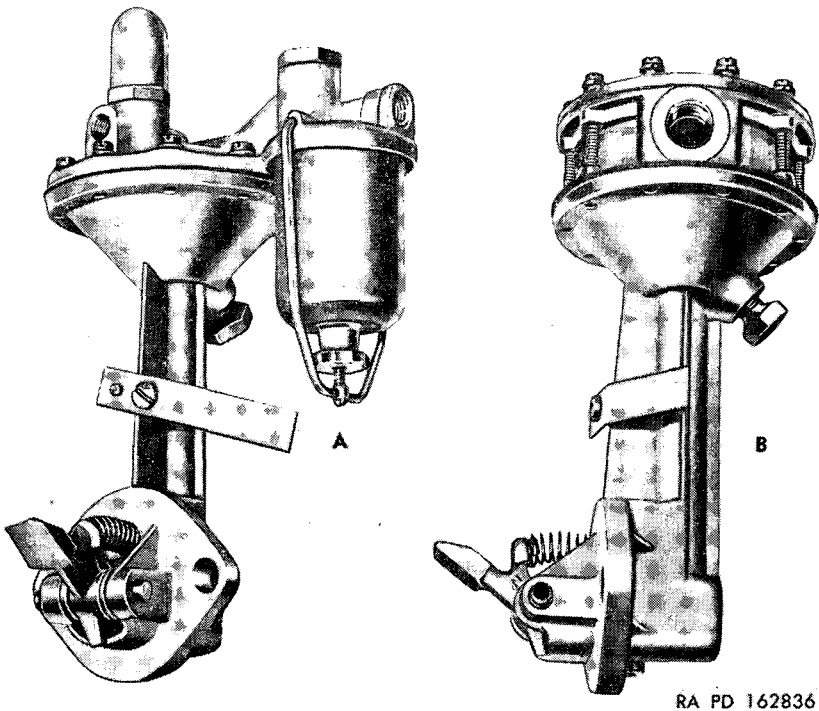

Figure 10. Special fuel pump, series IHC.
*a. Identification.* Series IHC special fuel pumps (fig. 10) are provided with high bodies to avoid engine interference with the pump top cover. Example A in figure 10 uses a cover similar to the D series pumps and example B uses the 6-valve cover for extra volume and pressure characteristics.
- (1) Remove diaphragm and pull rod assembly by pressing downward on diaphragm and then turning 90 degrees to disengage pull rod from link. Lift out diaphragm spring. Remove oil seal and oil seal retainer.
- (2) Before disassembling diaphragm, note carefully the position of tab on diaphragm with relation to flats on pull rod so new diaphragm can be assembled in the same manner.
- (3) Place pull rod in vise and remove pull rod nut, lock washer, alinement washer, upper protector washer, diaphragm, lower protector washer, and pull rod gasket in the order named.
- (4) Remove retainer clips from rocker arm pin and drive out pin with drift punch and hammer. This will disassemble rocker arm spring, rocker arm, link, and link spacer washers. Remove priming handle pivot screw to disassemble priming lever and link actuator.
*d. Disassemble Cover (A of fig. 10).*
- (1) Loosen bail screw nut and remove bowl, bowl gasket, and bowl seat. Spring bail out of retaining holes in top cover and remove bail screw nut. Remove strainer screen from top cover.
- (2) Remove valve plug and gasket from top cover over strainer. Remove inlet valve spring and valve. Remove air dome (or valve plug) and gasket from top cover over diaphragm. Remove outlet valve spring and valve.
*e. Disassemble Cover (B of fig. 10).*
- (1) Remove two center cover screws to disassemble pulsator cover plate. Remove three layers of pulsator diaphragm from cover assembly.
- (2) Remove eight screws from two valve plates in cover. Lift out two valve plates, six valve and cage assemblies, and two gaskets.
### *b. Assemble Cover (A of fig. 10).*
### *c. Assemble Cover (B of fig. 10).*